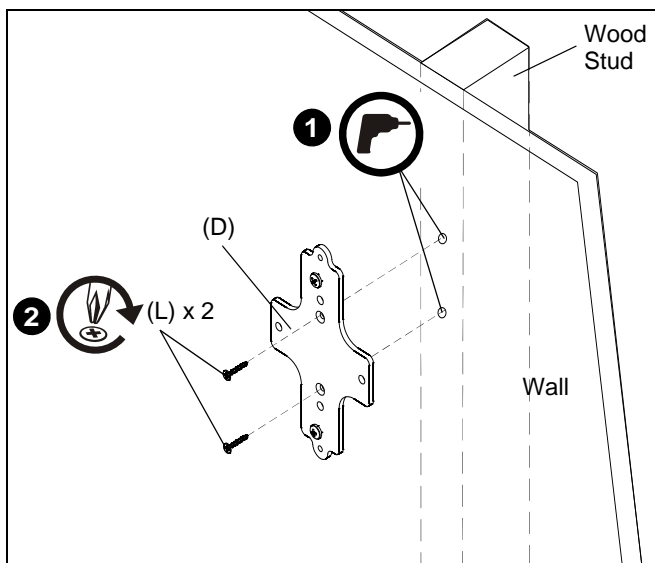

Figure 2
1. Drill two 0.08" pilot holes into wood stud. (See Figure 2)
2. Attach bracket (D) to wall using two #6 x 1" drywall screws (L).